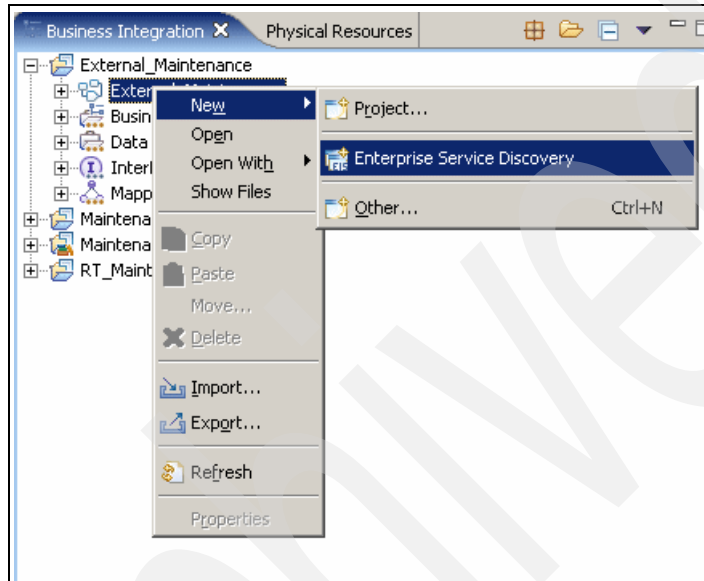

Figure 2-4 Enterprise service discovery
1. Right-click the **External\_Maintenance** module and select **New** → **Enterprise Service Discovery** (Figure 2-4).